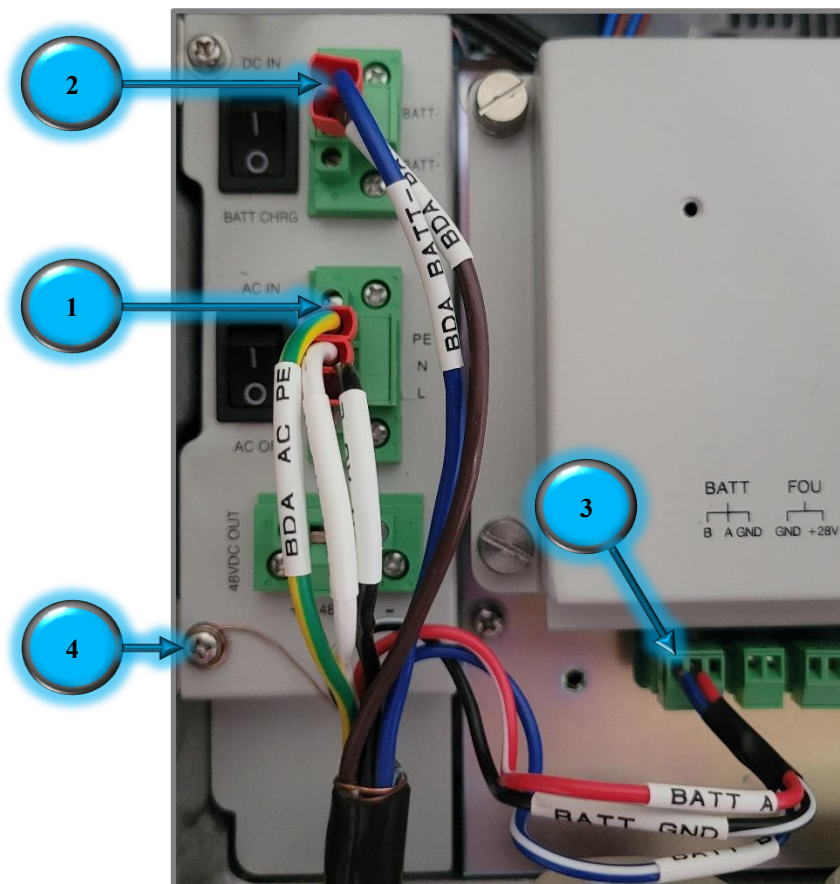

Figure 48: V3 BDA/MU/RU Hybrid Cable Wire Connections
- Connect the sleeved wires to the Phoenix connectors inside the BDA/MU/RU as shown in Figure 48 below. The Phoenix connectors are removable for ease of installation.
- a. Connect (AC) Black Wire to L
- b. Connect (AC) White Wire to N
- c. Connect (AC) Green/Yellow Wire to PE (GND)
- a. Connect (DC) Brown Wire to BATT+
- b. Connect (DC) Blue Wire to BATT-